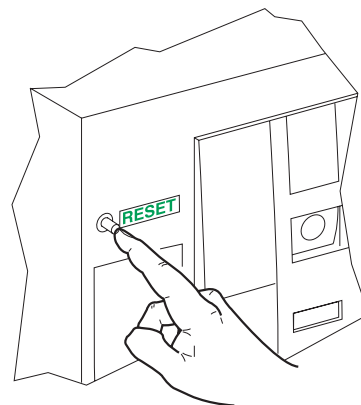

Fig. 8
- If the device trips due to an electrical fault, reset the indicator on the control unit by pushing the **RESET** button (see Fig. 8).